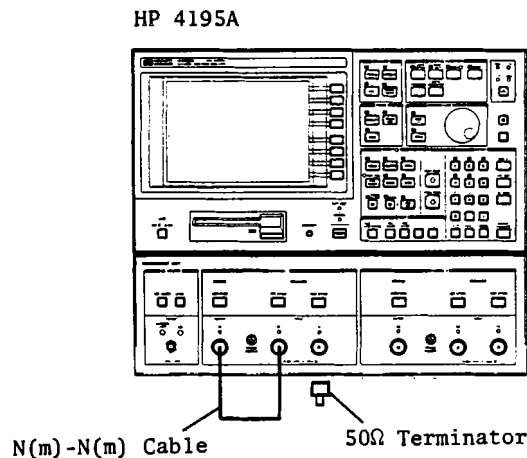

Figure 2-16. Crosstalk Test Setup
2. Connect an N(m)-N(m) Cable between HP 4195A **OUTPUT S1** and **INPUT R1**, and connect a 50 Ω Termination to **INPUT T1**, as shown in Figure 2-16.